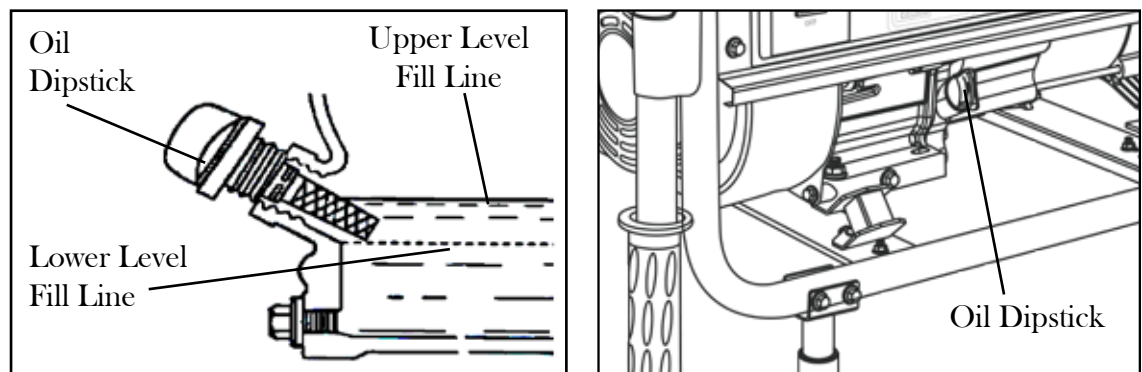

Fig. 2 - Oil Fill Opening, Dipstick and Oil Level
2. Remove the dipstick from the engine (Fig. 2).
3. Add oil slowly, being careful not to overfill the unit. Fill the crank case to the upper fill line so the oil lands about halfway up the dipstick threads (Fig. 2).
5. Slowly add more oil and repeat step 4 until the oil mark reaches to the top of the dipstick (Fig. 2). Do not overfill the crankcase. The generator is equipped with a low-oil sensor and will not start without a sufficient amount of oil.